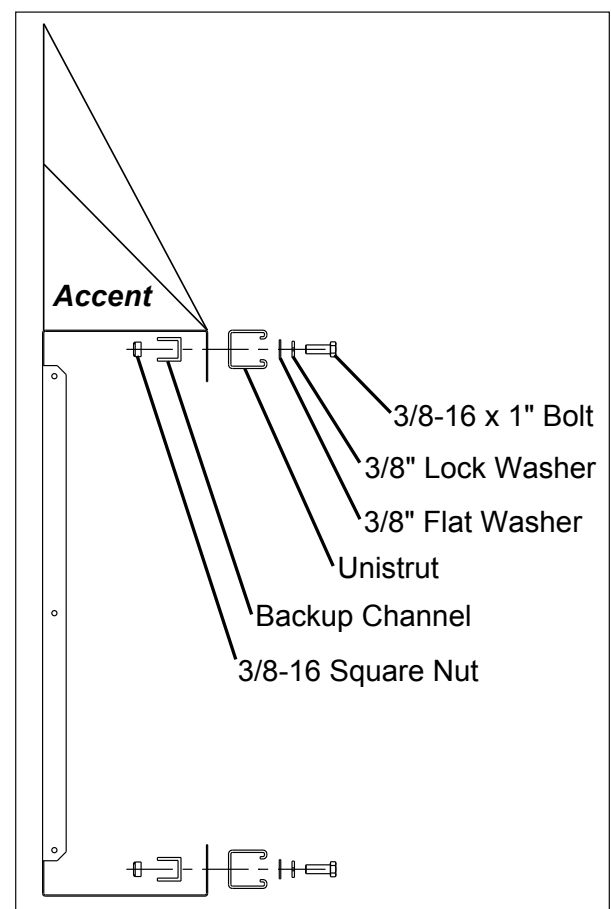

Figure 8: Unistrut Attachment, Side View
Mounting hardware includes C-channels; unistrut; spring nuts; I-beam clamps; 1/2-13 x 3" bolts, flat washers, and lock washers; and 3/8-16 x 1" bolts, flat washers, lock washers, and nuts. Refer to **Figure 8** and one of the following drawings from **Appendix A**:
3. Attach the piece of unistrut to the accent cabinet with the included 3/8" hardware, as shown in **Figure 8**.